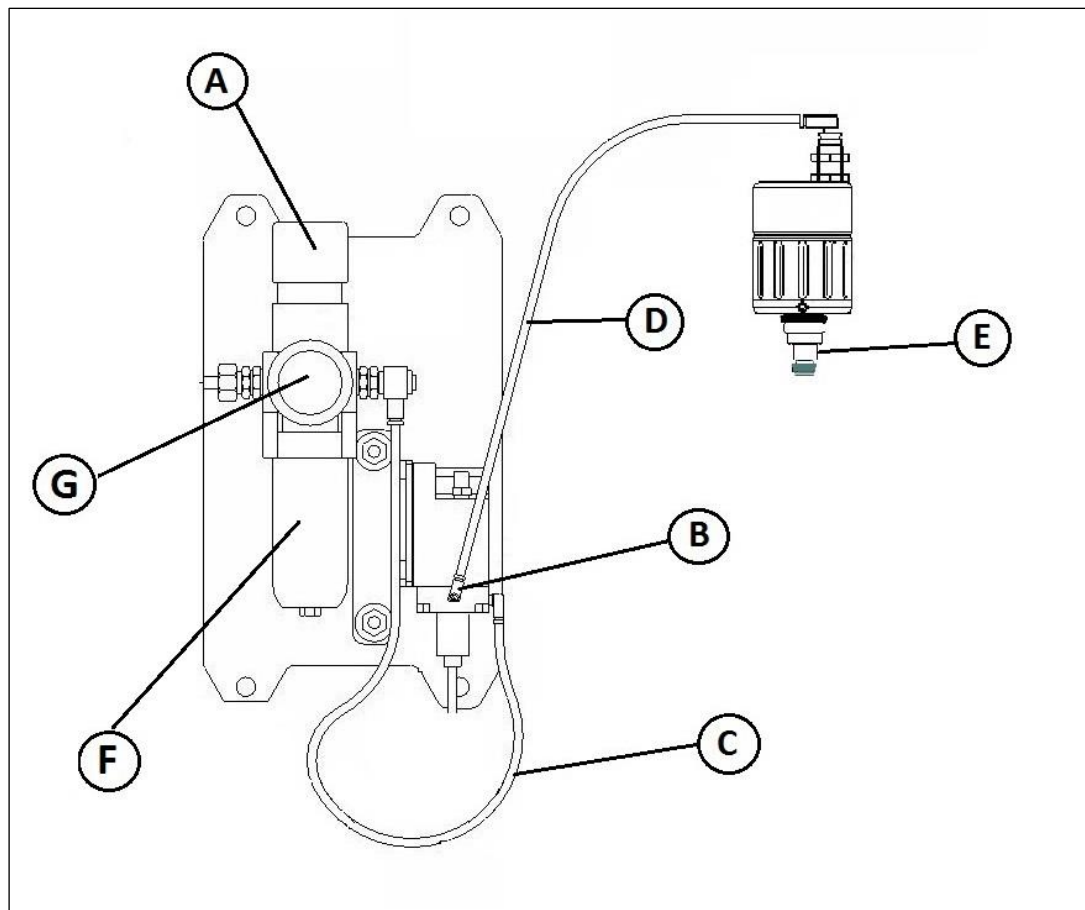

Figure 17 Auto Clean Control Unit
- c) To reinsert just put the wiper back. The magnetic coupling will arrest it (see Figure 17).